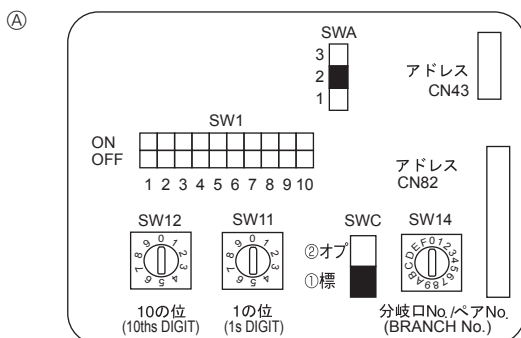

Fig. 6-6
6.4. Setting addresses (Fig. 6-6)
④ Address board
6.5. Switch setting for different ceiling heights (Fig. 6-6)
6.6. Sensing room temperature with the built-in sensor in a remote controller (Fig.6-6)